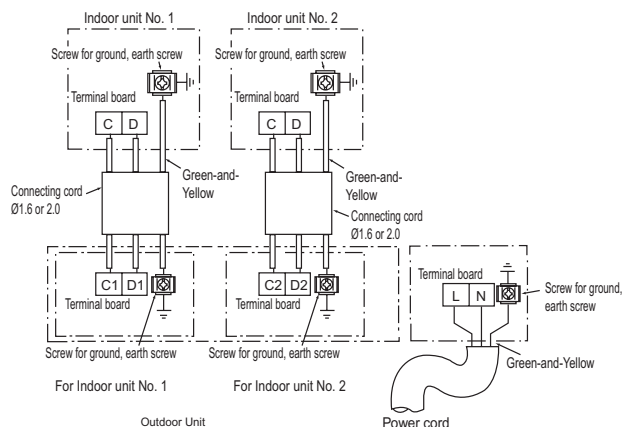

Fig. 1
- Connecting cord should be connected according to Fig.1, that the Indoor unit No. shall match with terminal board No. of Outdoor unit.